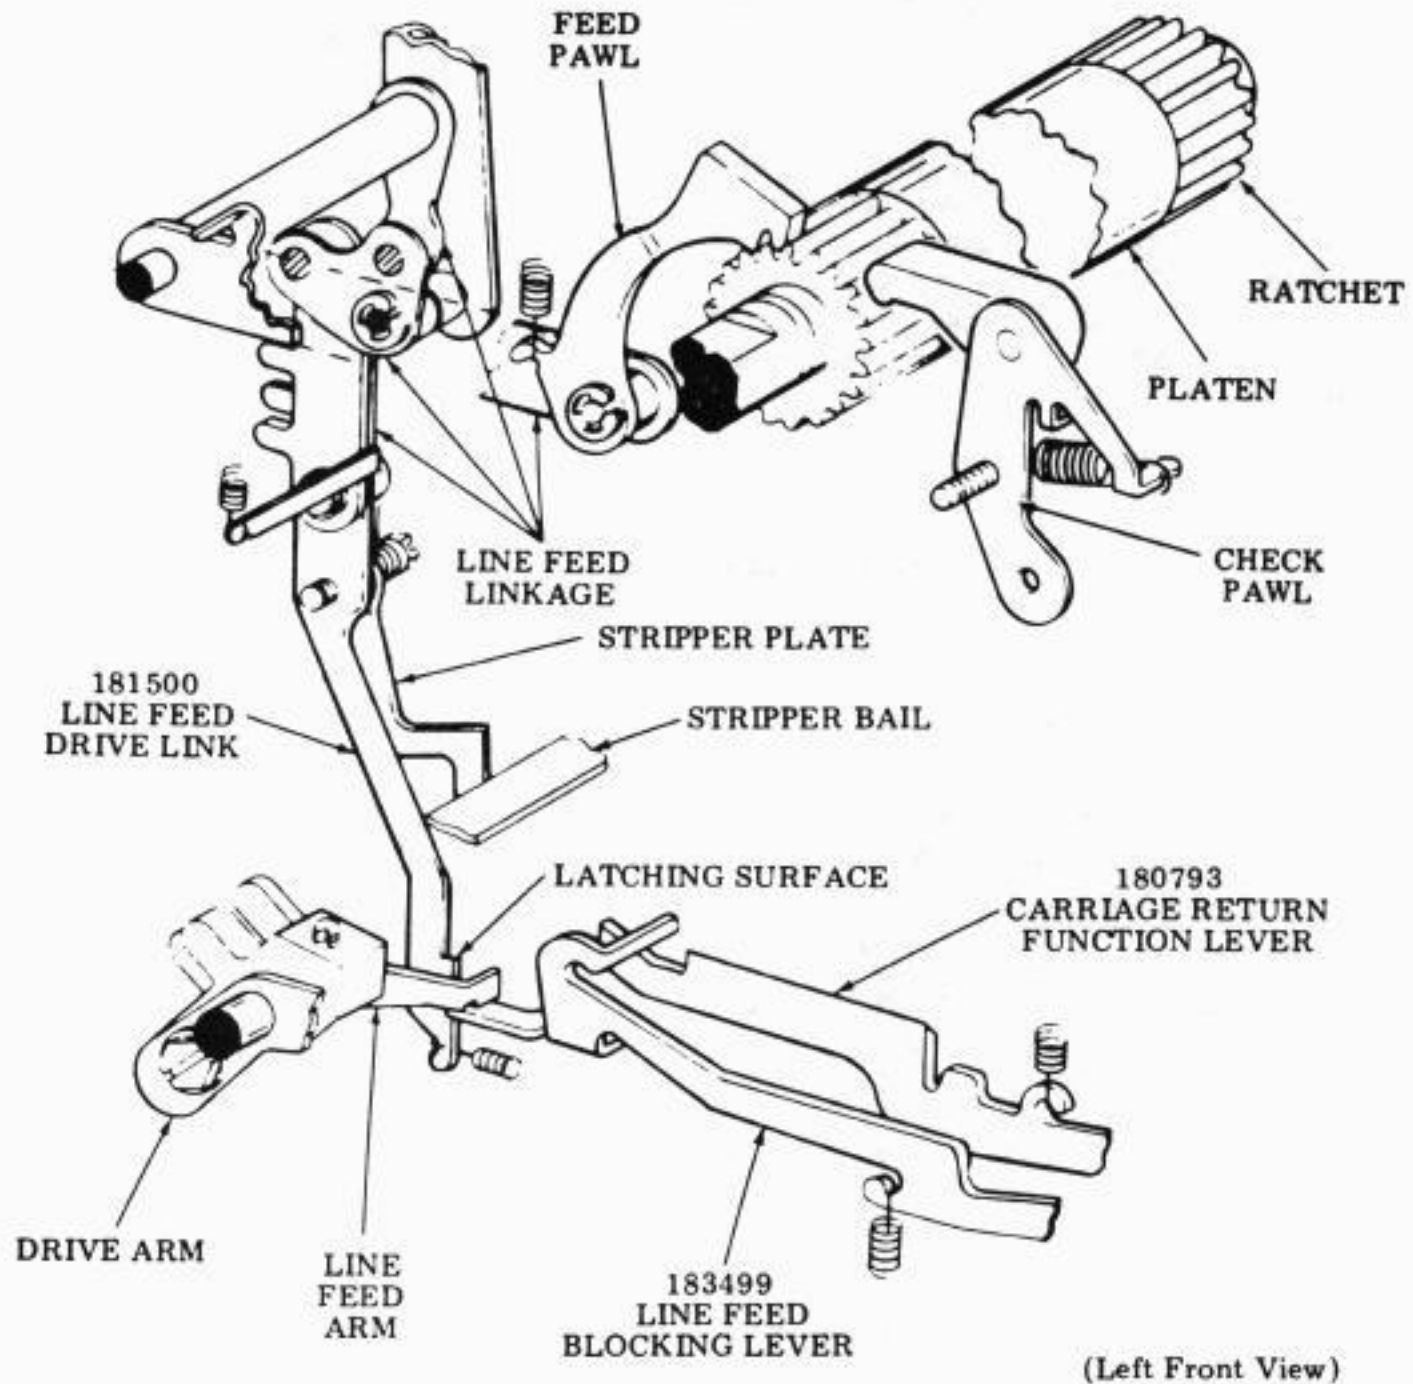

Figure 4 - Paper Feed Mechanism
2.16 Upon receiving the carriage return code combination, the 180793 carriage return function lever (see Figure 4) moves upward to its selected position. In doing so, it engages the extended tab of the 183499 blocking lever and causes it to move up also. As the blocking lever rises, it engages the latching surface of the 181500 line feed drive link. During the middle portion of the cycle, the carriage return lever and the line feed drive link are driven downward causing both functions to occur simultaneously.